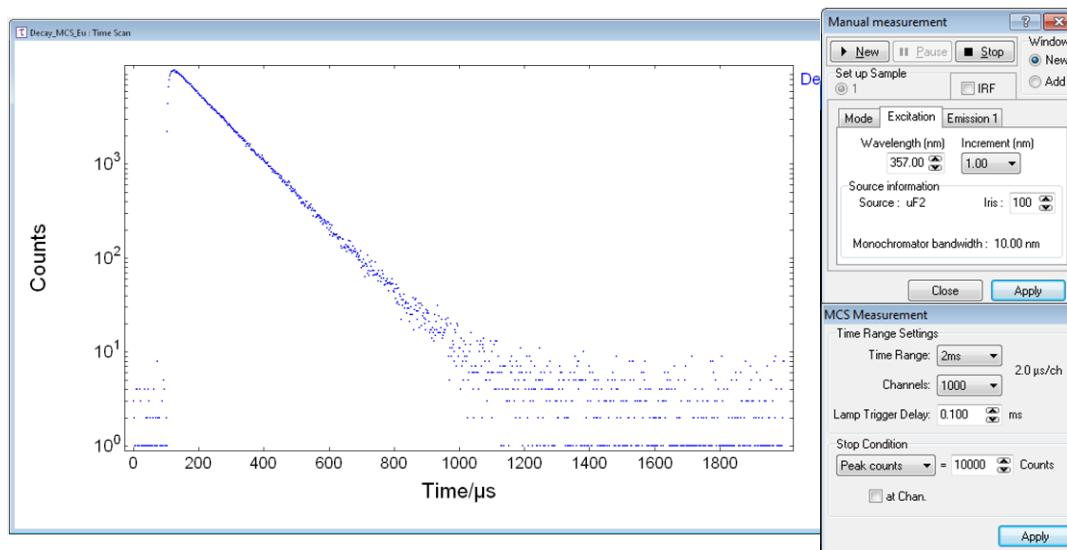

Figure 6-5: Dialogue box for a manual time-resolved measurement by MCS
- 11-2** Open the option for manual lifetime measurements (> **Manual**). Two dialogue boxes will appear on the right side of the Fluoracle main panel: the upper one provides an extract of Signal Rate options and will be required to start and stop measurements and the lower one is specific for the lifetime settings in multi-channel scaling mode (refer to Figure 6-5).